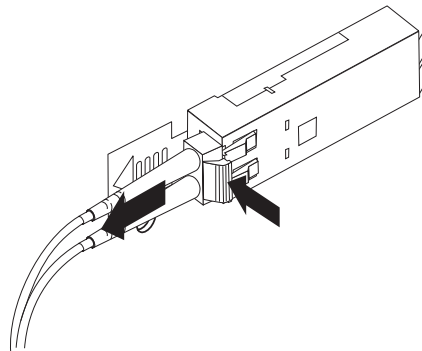

Figure 32. Removing the LC-LC fibre-channel cable
2. Carefully pull on the connector to remove the cable from the SFP module, as shown in Figure 32.